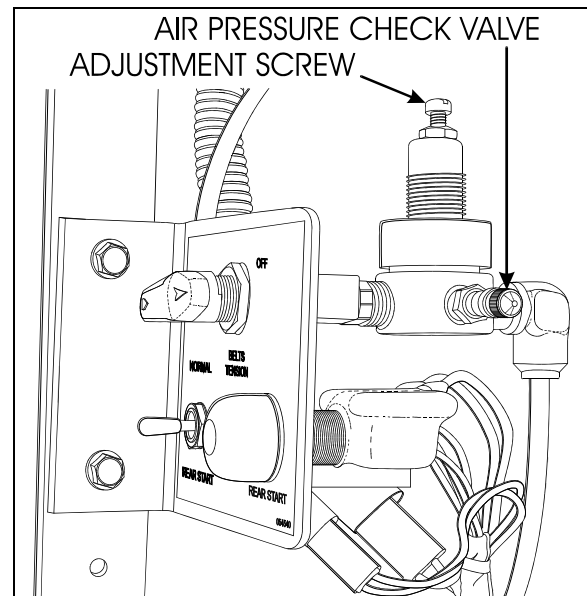

FIGURE 16: TENSIONING VALVE
1. Open engine compartment rear doors and locate the belt tensioner two-way control valve (Figure 16), mounted above the engine R.H. side door next to the pressure regulating valve, then turn handle
3. Reset belt tensioning pressure control valve (Figure 16). Pressure is factory set to 45 psi (310 kPa), periodically check proper pressure.